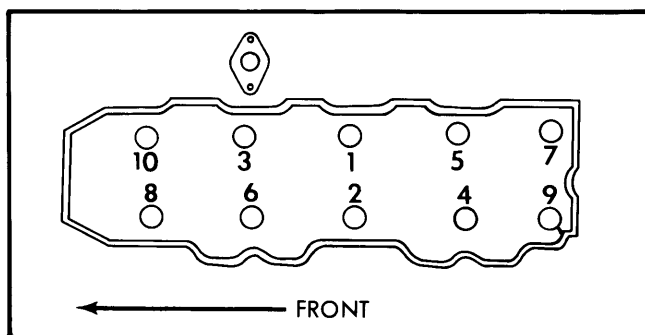

Fig. 1 Cylinder Head Tightening Sequence (Remove in Reverse Sequence)
2) Paint mating marks on camshaft sprocket and timing chain. Remove rubber half circle seal, distributor drive seal and cam sprocket retaining bolt and remove sprocket from camshaft, allowing sprocket and chain to rest in cylinder head. Remove chain cover bolt, then remove cylinder head bolts in reverse of tightening sequence (See Fig. 1).
Installation — Apply liquid sealer at 2 front corners of block and position head gasket over locating dowels. Place head in position and turn camshaft so dowel is at top. Install rocker arm assembly over locating dowels and tighten head bolts in 3 steps in the sequence shown in Fig. 1. Continue installation in reverse of removal sequence, ensuring that valve and ignition timing is properly set.